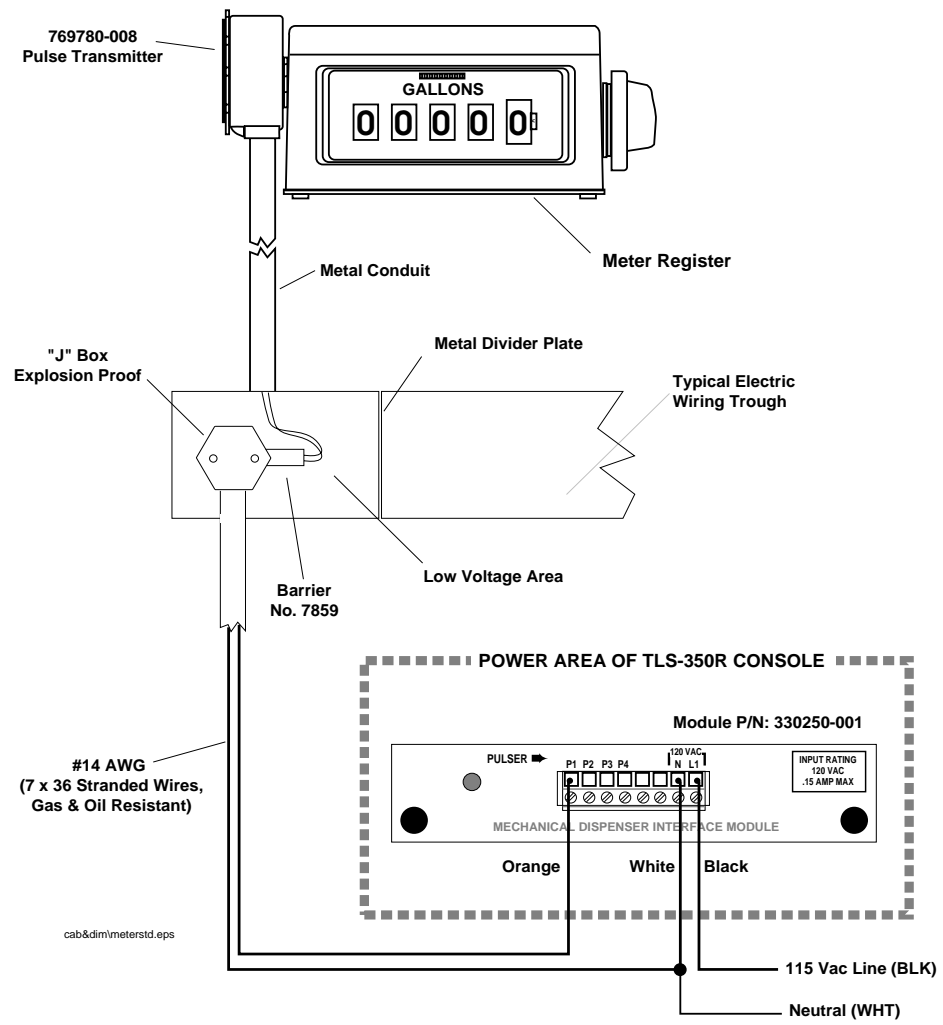

Figure 5. Meter Stand Application Using 1871/7697 Series Pulse Transmitter
3. Connect the wires (#14 AWG) from each pump or dispenser junction box to the appropriate terminals on the MDIM (see Figure 5 on page 12).
Refer to Figure 5 below for Meter Stand Applications (and see Figure 3 on page 9 for a close-up of a Pulse Transmitter wiring diagram):